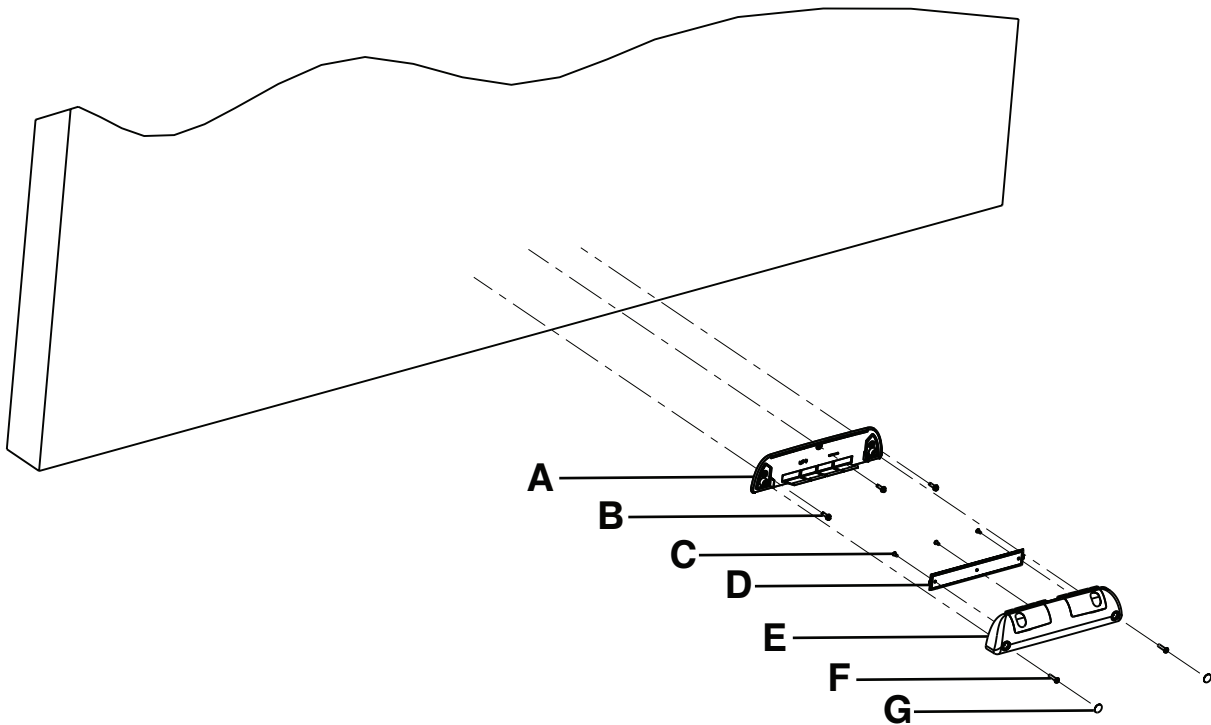

Figure 5 – Mounting with wall plate
- Center the supplied wall plate (A) (5212-100-025) on the mark that was made in step 2. Use a pencil to mark the bottom of the wall plate (A) (Figure 5).
1. Using a small slotted screwdriver, remove the two screw cover labels (G) from the wall module (E) (Figure 5). Save the screw cover labels.